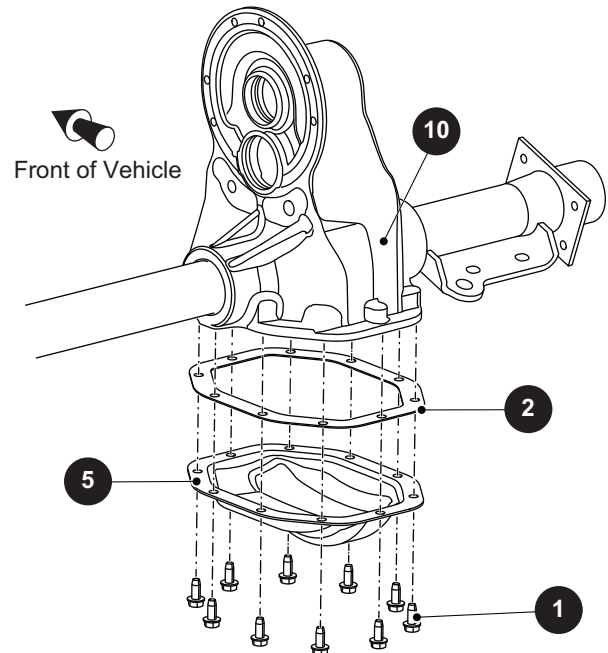

Fig. 1 Removal of Oil Pan
1. Remove the bolts (1) securing the oil pan (5) to the differential housing (10) (Ref Fig. 1).
2. Separate the oil pan (5) from the differential housing.